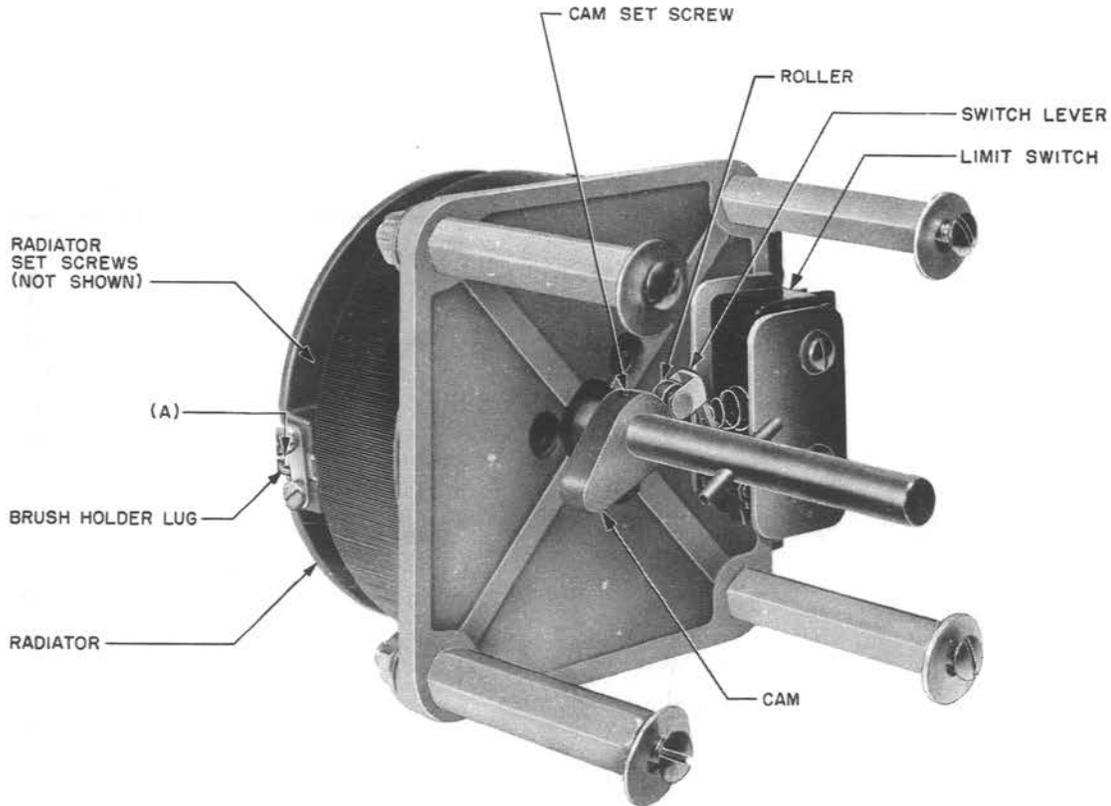

Fig. 5 - KS-15955 Autotransformers
(2) **KS-15955 Autotransformer, Fig. 5(A):**